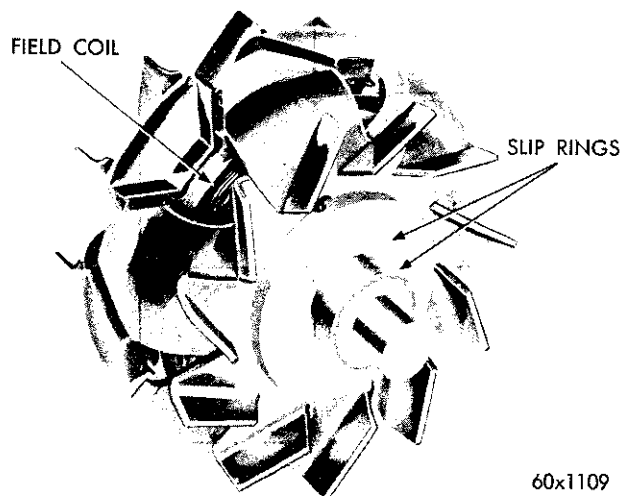

Fig. 17—Alternator Rotor Assembly
The rotor (Fig. 17) consists of circular field coils, encased by two end pole pieces, each having six protruding fingers spaced 60 degrees apart. In assembly, the six protruding fingers (of each end pole piece) are alternately spaced providing twelve poles. Since the end pole pieces have different polarity, this in effect provides a (12) twelve-pole rotating electro magnet.